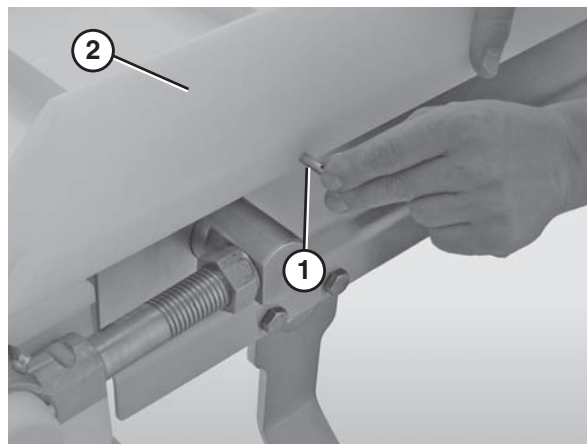

Figure 35
3. Insert the pull pins (Figure 35, item 1) into the holes in the guide (Figure 35, item 2).